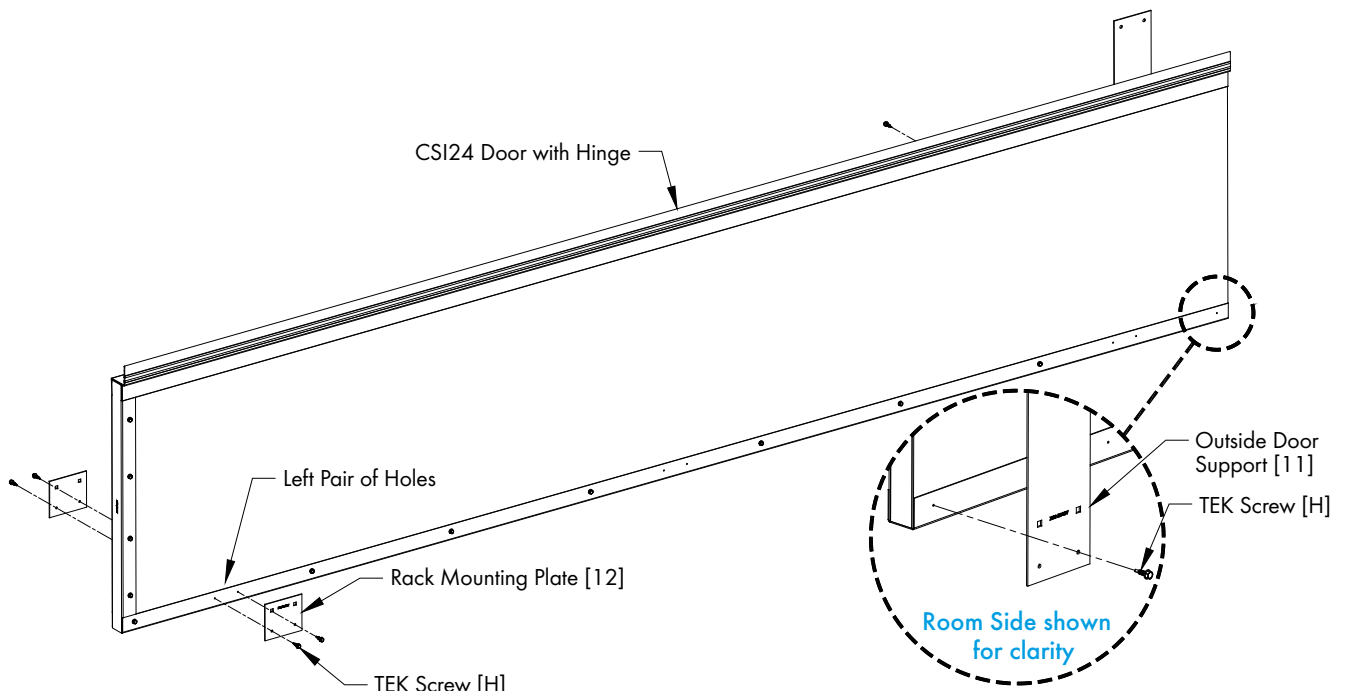

Figure 6
For the Left Door, attach a Rack Mounting Plate [12] on each side of the door to the left pair of holes in the Door Edge Trim using (2) TEK Screws [H] per Plate. See Figure 6. Then attach an Outside Door Support [11] (24") at the right end of the CSI24 Door, on the room side, so that half of the Support is on the Door and the other half of the Support hangs off the end. See Figure 6.
Attach (2) Rack Mounting Plates [12] on each side of the door to the left pair of holes and to the right pair of holes in the Door Edge Trim using (2) TEK Screws [H] per Plate. See Figure 6.